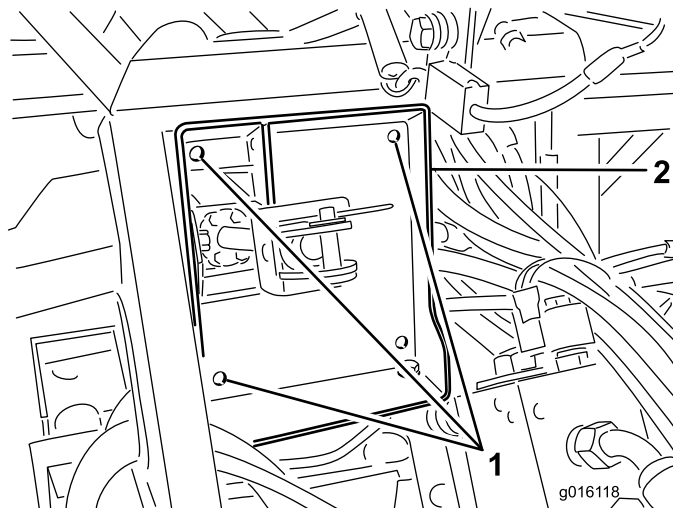

Figure 7
- On older models, three holes need to be drilled in locations shown in Figure 7.